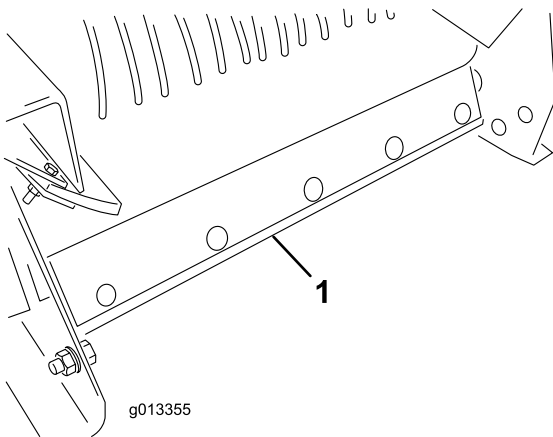

Figure 60
6. Remove the belt cleaning scraper assembly from the rear of the machine (Figure 60).